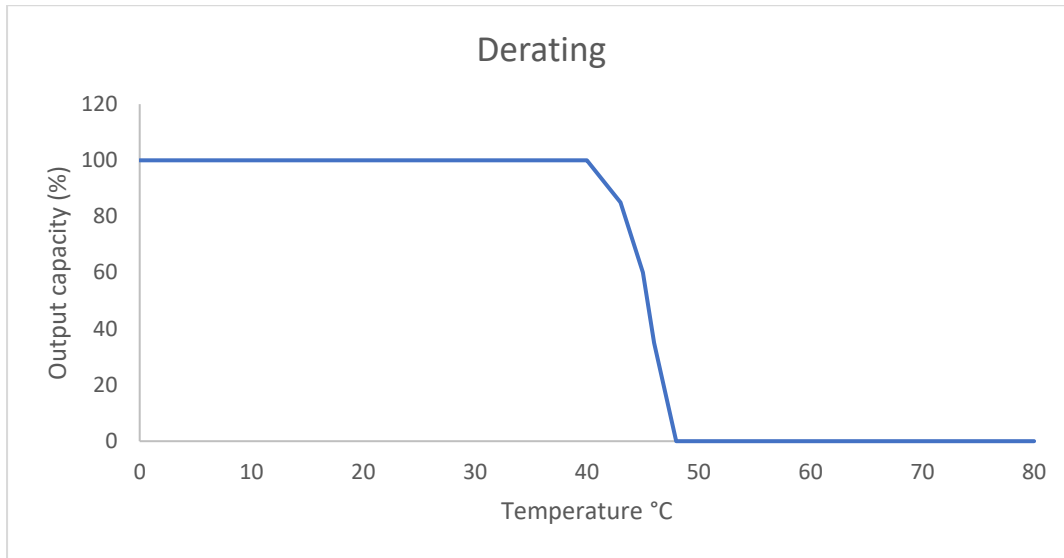

Figure 7: Derating coefficient in the function of the temperature
At the nominal operating temperature, the A2 module works at full 100% of the nominal capacity (see technical data in Chapter 10). However, if the installation temperature **is higher**, the A2 module will reduce the maximum output current automatically. The general capacity above the nominal temperature is presented in a generic model in Figure 7*.
**Figure 7 is for illustration purposes only. The actual operation capacity depends on the actual installation environment and the load current harmonics spectrum.*